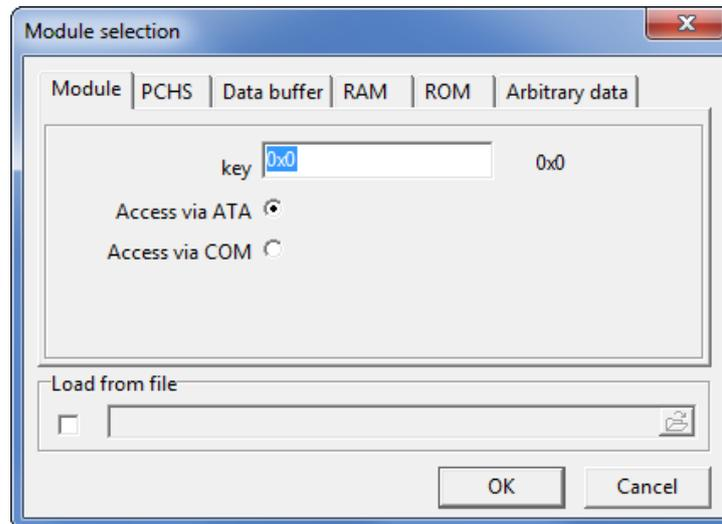

Fig. 6.14.
- ◆ Service data module (RSM), Fig. 6.14. The tab is available for drive families that support operations with modules. Their list includes U Series X, 5400.1. You can use the tab to work with modules of earlier drive families, such as U4, U6, U8, and U10. In all cases, manipulation of modules becomes possible after selection of the U Series X family. In order to receive access to module data, you will have to specify the module's key. Modules can be accessed both via ATA or terminal.